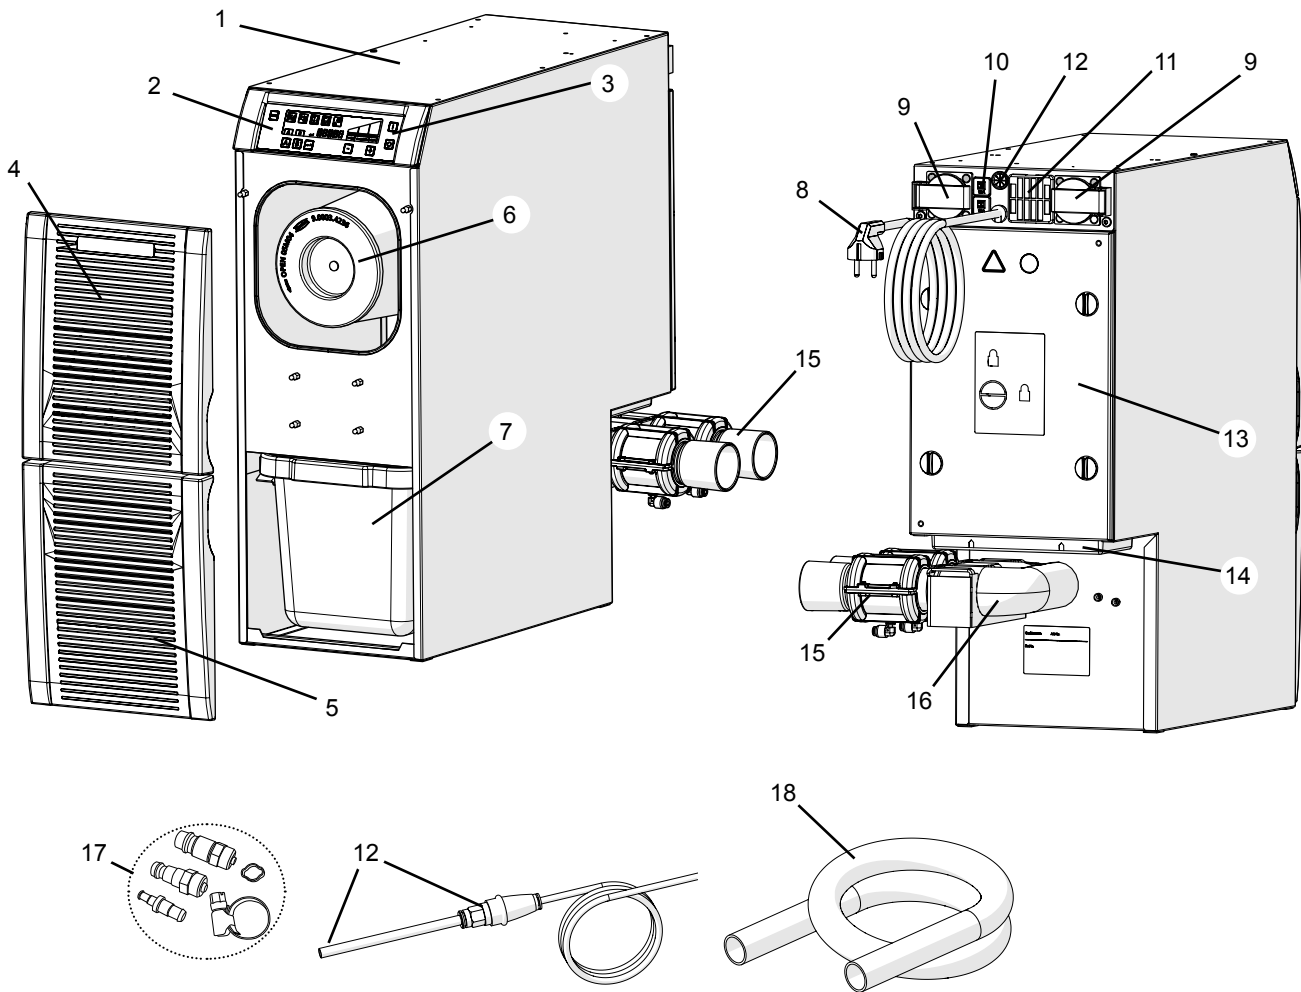

Fig. 1
- The exhaust vent (14, Fig. 1) is not blocked.
⇒ Switch the device off at the on / off switch (3, Fig. 1).
⇒ Select the appropriate tube connection piece from the connection set (17, Fig. 1) and attach to the end of the tube.